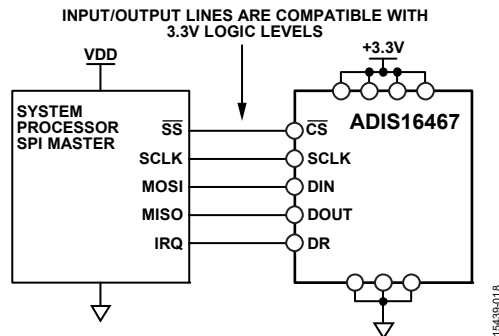

Figure 26. Electrical Connection Diagram
The SPI provides access to the user registers (see Table 8). Figure 26 shows the most common connections between the ADIS16467 and a SPI master device, which is often an embedded processor that has an SPI-compatible interface. In this example, the SPI master uses an interrupt service routine to collect data every time the data ready (DR) signal pulses.